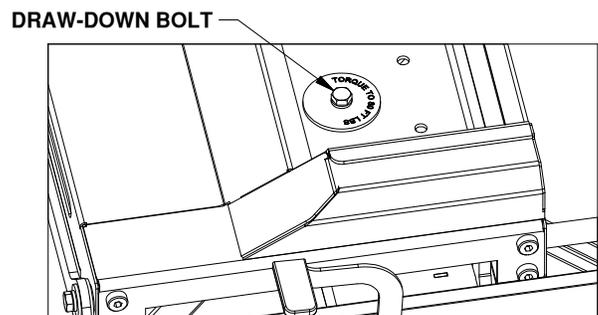

Figure B4: View looking into the top of the slider base.
- Secure base.** Secure the base of the slider to the truck bed by tightening the 1/2" x 3-1/2" draw-down bolt to 80 ft-lbs, see Figure B4.